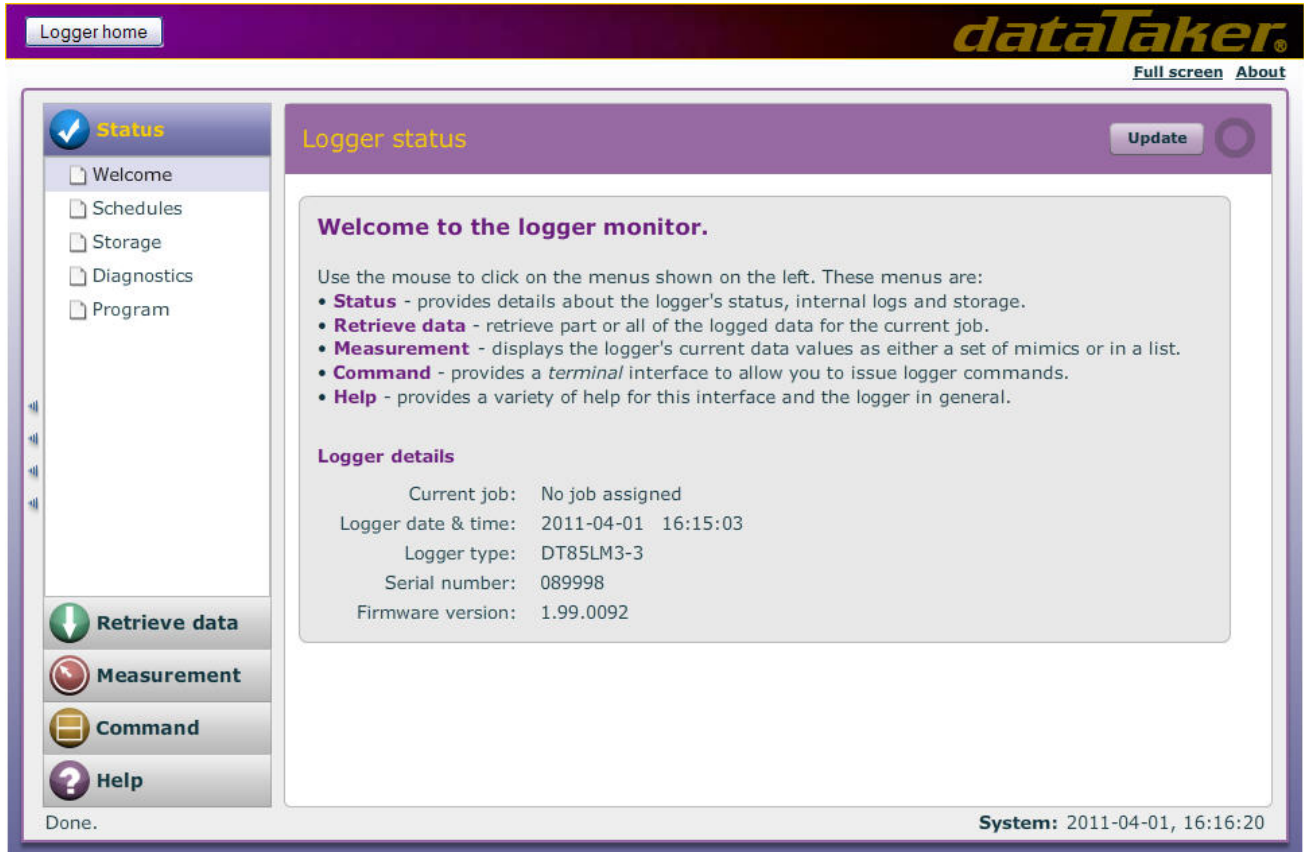

Figure 36: Welcome Screen
**Note** By using the web interface configuration tool, it is possible to disable or restrict some of the menu options. The sample displays shown in *Figure 36* and throughout this section assume that all options are available (which is the factory default).
The **Welcome** screen, as shown in *Figure 36*, is the first screen displayed when the web interface is started. It includes the following basic information about the connected logger: